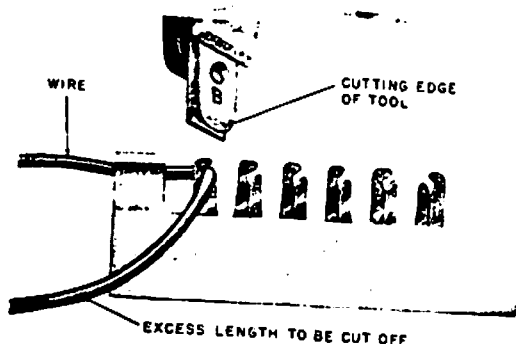

Figure 3. Preparation For Making Ended Termination
- Place wire in hook of terminal using fingers or long-nose pliers. See Figures 3 and 4.